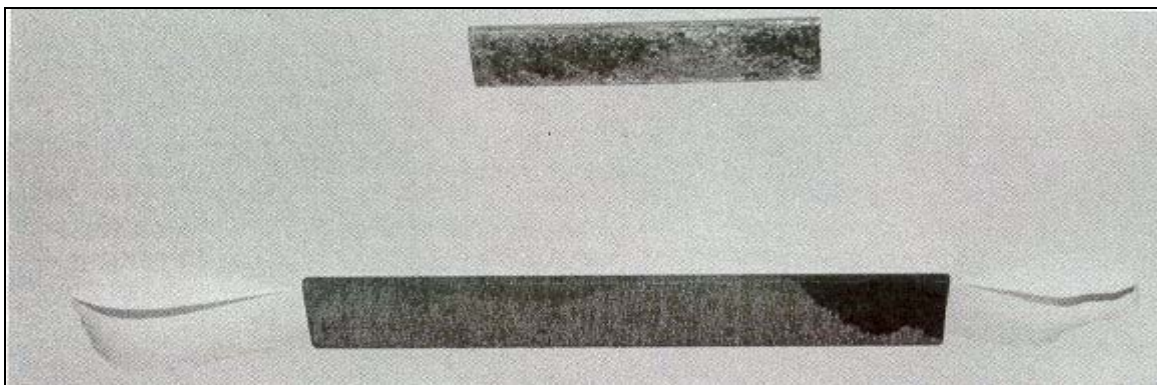

Figure 5-1. Both objects used in minimum source to tabletop distance test.
**NOTE:** Any lengths of metal strips will work as long as the length ratios are exactly 1:2. Another example would be one quarter and two quarters. Just be sure to keep the ratios 1:2. The smaller one goes on the table; the larger object goes on the imaging assembly (see figure 5-1).